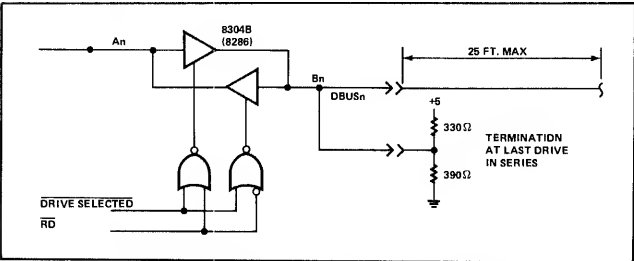

Figure 3-27. DBUS Transceiver
3.19.1 + DBUS 0–7. This high-active 8-bit wide bus is used to transfer commands and status (head carriage control and interface) between the disc drive and the controller. These lines connect directly to an 8304B (or 8286) bus transceiver, as shown in Figure 3.27. DC characteristics are listed in Table 3-2. These lines should be terminated at each end.
3.19.17 Interface DC Characteristics. This section, through tables and figures, sets forth the details that need to be observed, in order to properly transmit and receive the interface signals. The signal characteristics are shown in Table 3-2 to 3-10 and Figures 3-27 to 3-24.